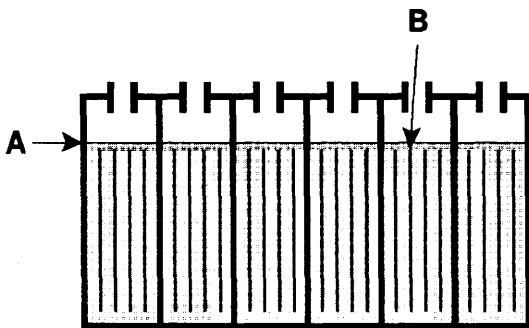

Fig. 10.
4. Check water lever "A" in each battery cell. Do not charge batteries unless water is slightly covering battery plates "B". If needed, add just enough distilled water to slightly cover plates. DO NOT overfill. Batteries can overflow during charging due to expansion. Replace cell caps before charging. (Fig. 10)